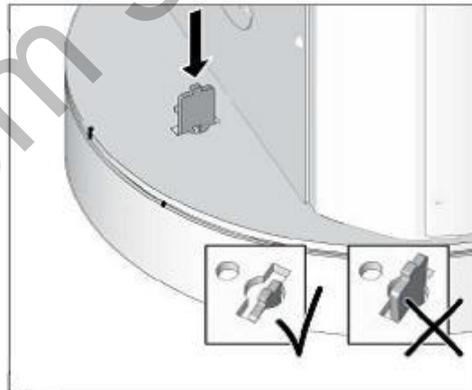

Figure 6: Insert Second Rotation Locking Stopper
5. Rotate the stove back to the zero position. Rotate the stove in the opposite direction as Step 4 slightly. Slide the second Locking Stopper down into place (see fig. 6).
6. Insert the rotation lock, and line up the mounting screw holes (fig. 6).